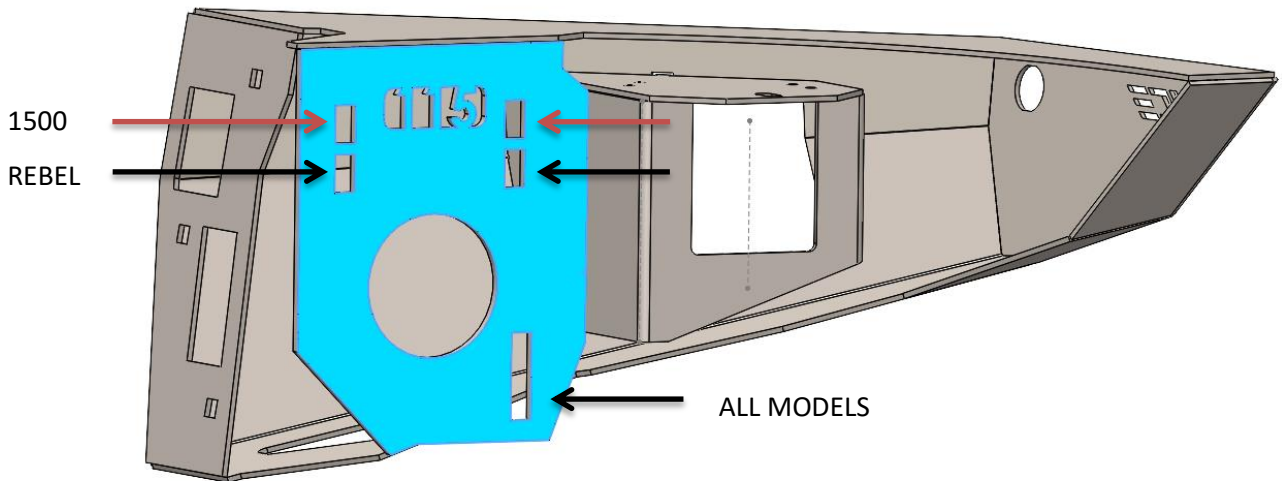

Figure 4
17. Install M12 carriage bolts into the frame plate highlighted in Figure 4 (three on each side). Use the **top** two square slots if installing on a **1500**, use the **bottom** two square slots if installing on **REBEL**. Use a 17mm deep socket to secure the provided pushnut bolt retainers and hold the bolt onto the bumper as in Error! Reference source not found.. These will make installing the bumper much easier!